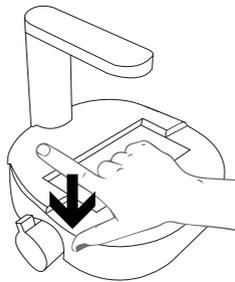

Figure 15. Carefully press the adapter plate downwards.
- ▶ Push the adapter plate downwards, until it clicks into place on-top of the Corning Cell Counter (Figure 15).